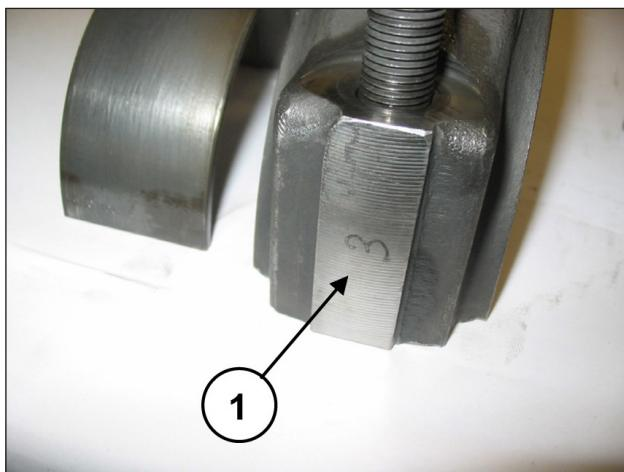

Fig. 33
Couple the half supports to the previously disassembled caps, referring to the numbering (pos. ①, Fig. 33).
Separate the caps from the half supports. Proper coupling can be verified by the numbering on the side (pos. ①, Fig. 33).